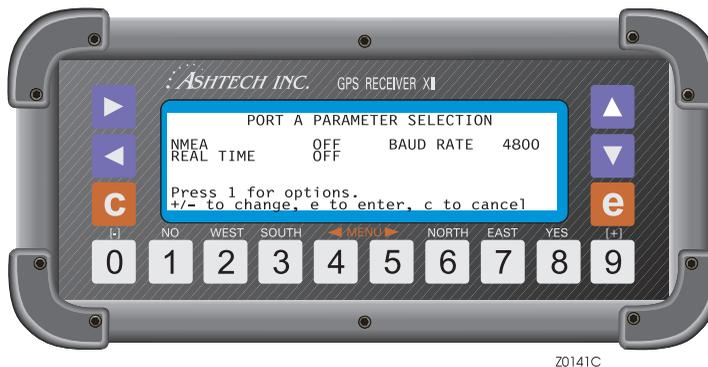

Figure A.2. Port A Parameter Selection
- Press **[e]** to call the **Port A Parameter Selection** screen, Figure A.2.